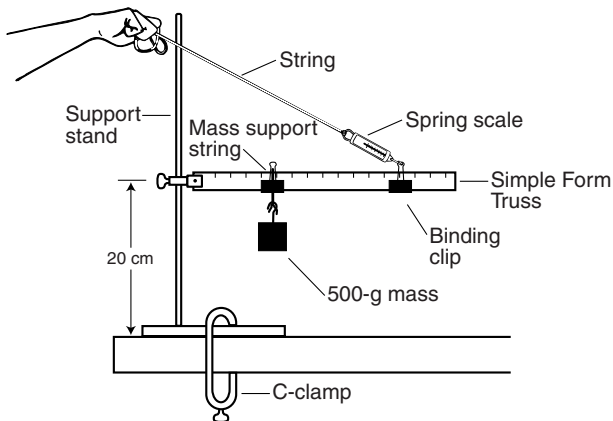

Figure 5.
2. The setup for the Simple Form Truss is shown in Figures 5 and 6.